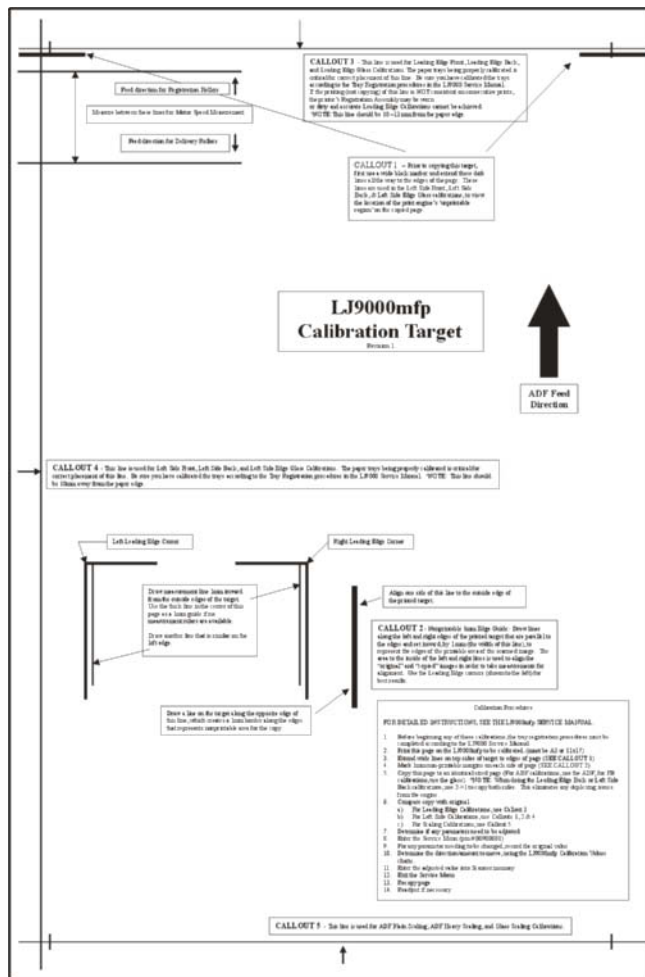

Figure 196. Left side front calibration (1 of 4)
- 2 On the MFP to be calibrated, print the calibration target on ledger or A3 paper. See figure 196.